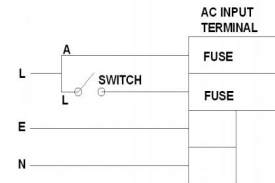

Fig 7
2) If there are just **3 wires** from the main supply, without Emergency Wire, connect the wires in order (see Fig 7):